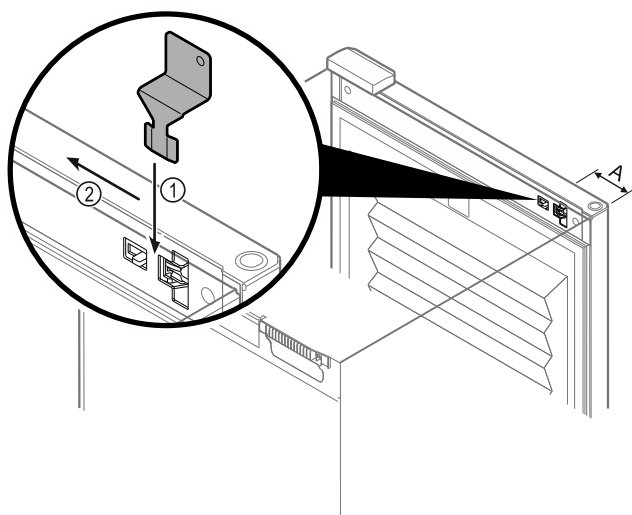

Fig. 101
- ▶ Insert the emergency release key in the specified position Fig. 101 (A) \approx 100 mm.
- ▶ Insert the emergency release key Fig. 101 (1) between the door and the body of the appliance from above to the end stop.
- ▶ Pull the emergency release key towards the hinge. Fig. 101 (2)